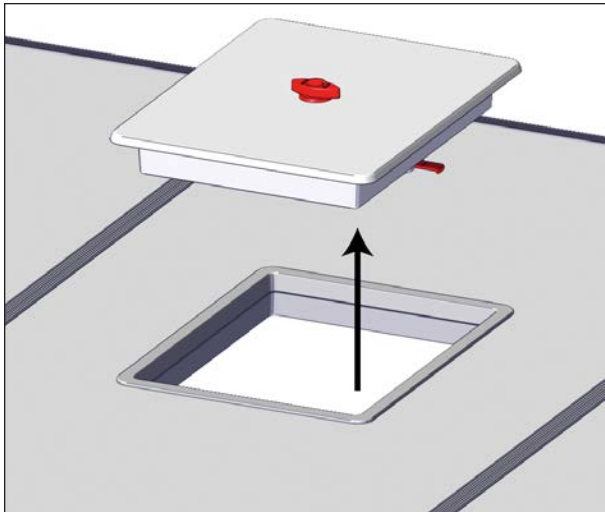

FIGURE 73: REMOVE HATCH
2. Push straight up on the escape hatch and move it to the side, see Figure 73.